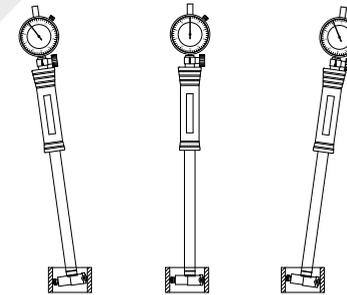

Fig.1
- (1)Set size: Choose anvil, extension rod and washer according to the size of workpiece, then install them as follow figures, please make each part be installed steadily. Use wrench to tighten the anvil when range is less than 35mm. Press contact point several times after installation, the pointer of indicator move smoothly, flexibly.
- (2)Set calibration size: Select setting ring, outside micrometer, or standard hole with known diameter and accuracy, clean measuring faces with soft cloth.
- (3)Set zero(as using setting ring gage for a example): Insert the bore gage into setting ring and sway the bore gage wiggly(fig.1), to find the "turning point" of the pointer. Loosen bezel locking screw and rotate bezel to make "zero line" coincide with "turning point",then tighten bezel locking screw. Sway the bore gage wiggly several times to make sure the "zero line" coincide with the"turning point".